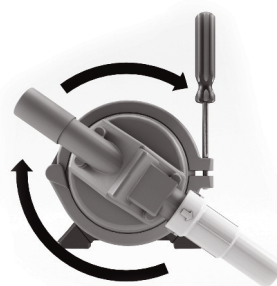

Fig 1.2
- Rotate the pump head if necessary. Loosen clamping ring screw, rotate and retighten as shown. See Fig 1.2